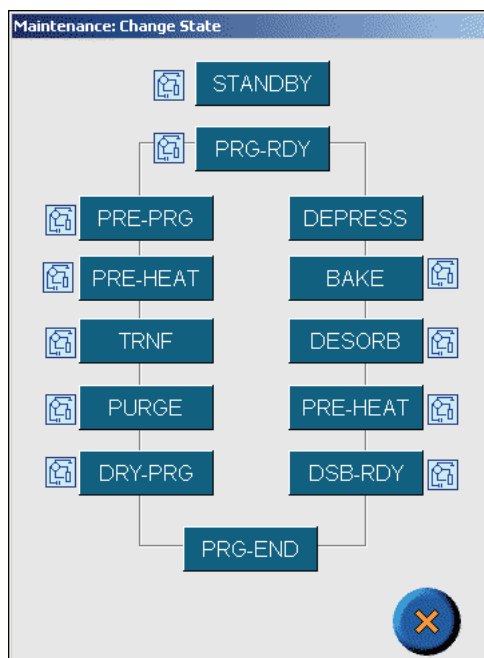

Figure 3.26. Maintenance: Change State dialog box
4. Press the **Manually Advance State** icon. The Maintenance: Change State dialog box appears (Figure 3.26).